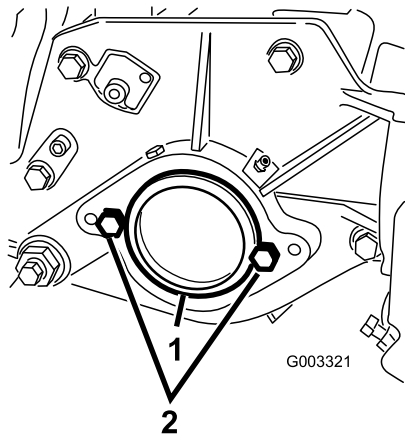

Figure 16
2. On right end of cutting unit, remove the plastic plug from the bearing housing (Figure 16).
3. Remove the 2 cap screws from the right side plate (Figure 16).
- 2. Cap screw (2)
- 5. Loosely install the 2 reel motor mounting cap screws to the left side plate of the cutting unit (Figure 16).